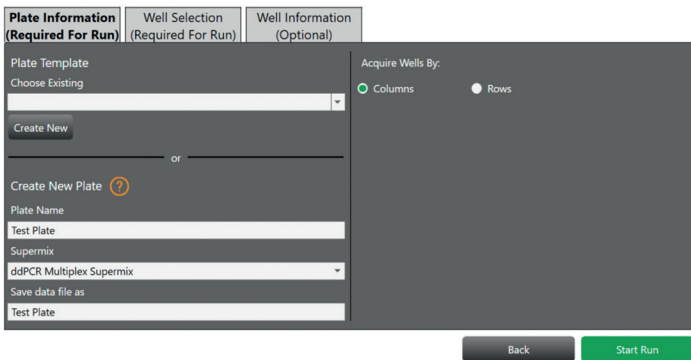

Fig. 3. QX Manager Plate Information tab setup.
4. In the Plate Information tab (Figure 3), enter a plate name, select **ddPCR Multiplex Supermix** from the Supermix dropdown menu, and enter a data filename.